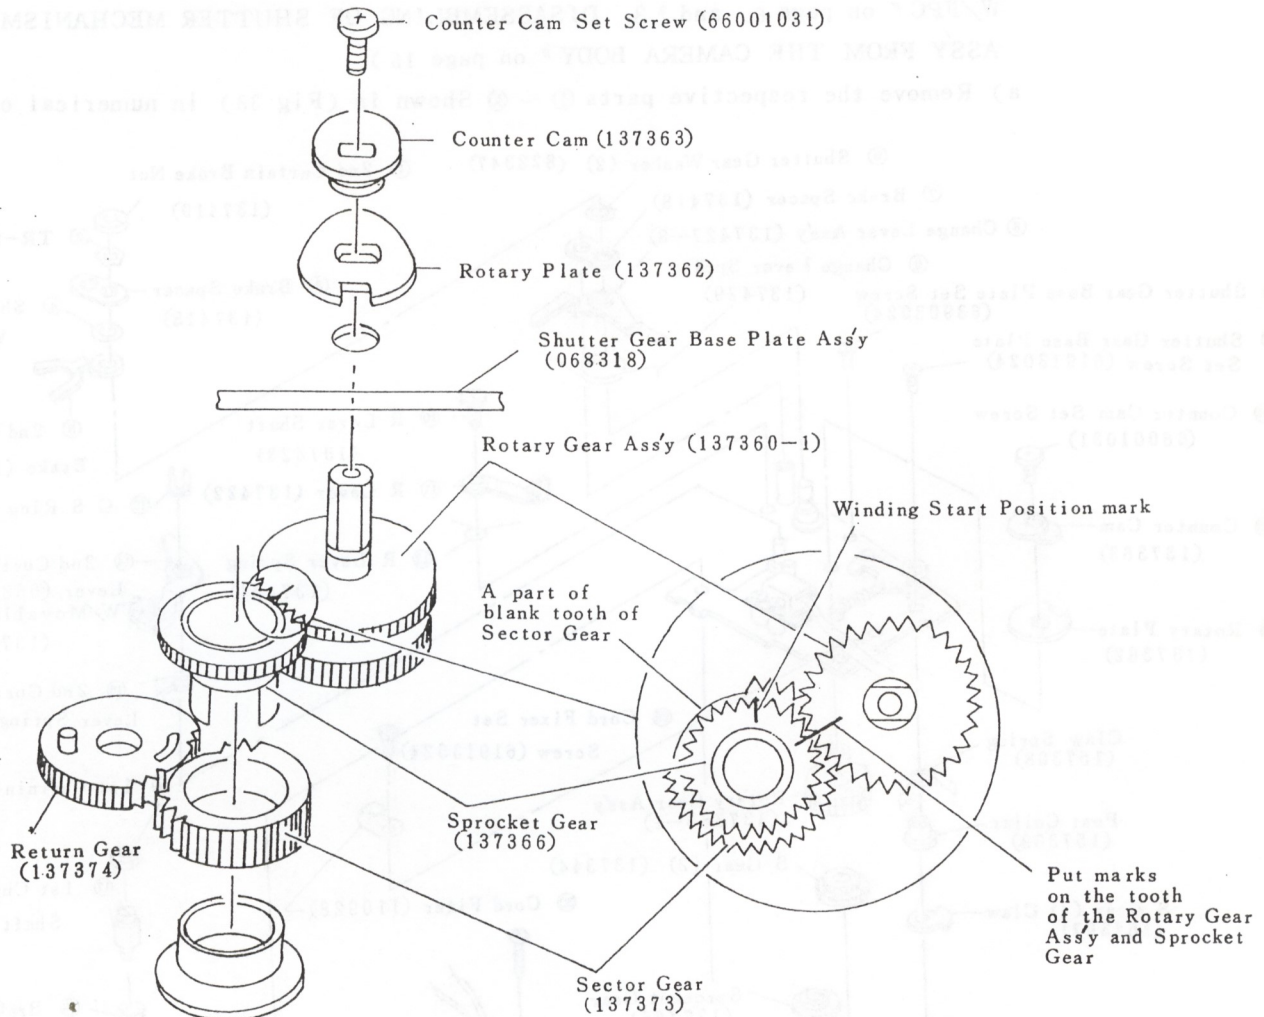

Fig 34
- a) Before removing the Rotary Gear Ass'y (137360-1) and Sprocket Gear (137366), put marks on the tooth of the Rotary Gear Ass'y and Sprocket Gear for indicating the original gear-engaged position (Fig 34)
- a) Pay attention to the direction and position of the Sector Gear and Return Gear as Shown in (Fig 34).